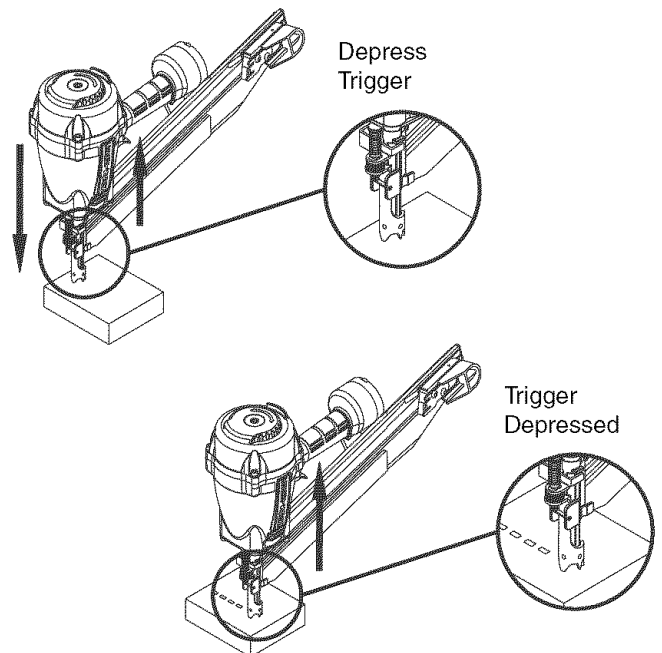

Figure 3 - Contact Trip Operation
Refer to Figures 3 & 7 (pages 3 and 8)
- The air tool is equipped with a contact trip safety mechanism (see Figure 3, page 3) that disables tool unless contact trip is pushed against work. Hold body firmly and press contact trip on workpiece where fastener is to be applied. Pull trigger to drive fastener into workpiece.